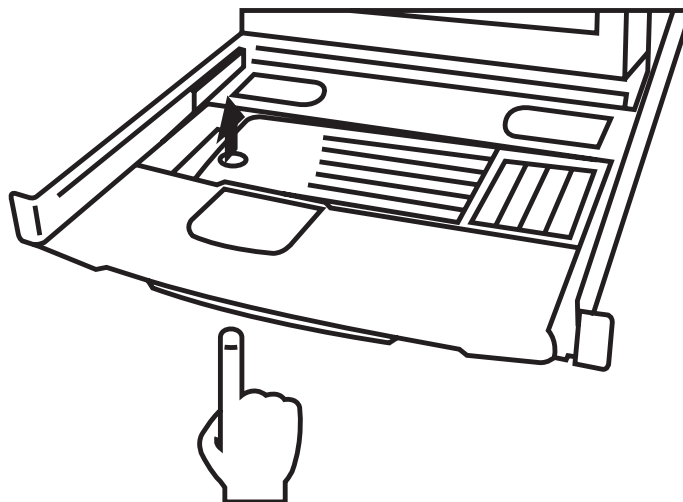

Figure 4-12. Push keyboard up through round hole under the drawer.
2. There is a round hole under the drawer. Using a finger, push the keyboard up and through the hole. See Figure 4-12.